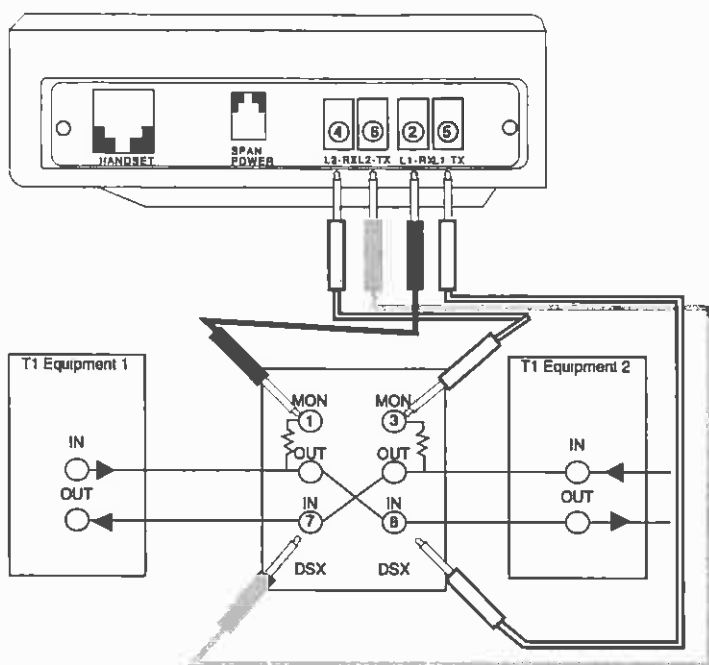

Figure 110 In Service Full Duplex THRU Drop and Insert
- 3. To conduct a hitless dual drop and insert THRU mode test on a line that is in service, make sure all the connections are made in accordance with the numbering procedure in Figure 110, In Service Full Duplex THRU Drop and Insert. This ensures the least amount of interruption on the live circuits. If performed properly, this test should disrupt the service for a duration of few hundred milliseconds. Press the HISTORY key on the keypad to clear them.
Refer to Figure 110, In Service Full Duplex THRU Drop and Insert. If you selected channel 1 and set the LISTEN SIDE to L1-Rx, then you should hear the voice conversation of only channel 1 from Equipment 1. Also, Equipment 2 should be able to hear your voice only on channel 1 since you are transmitting out to Line 1 on that specific channel.